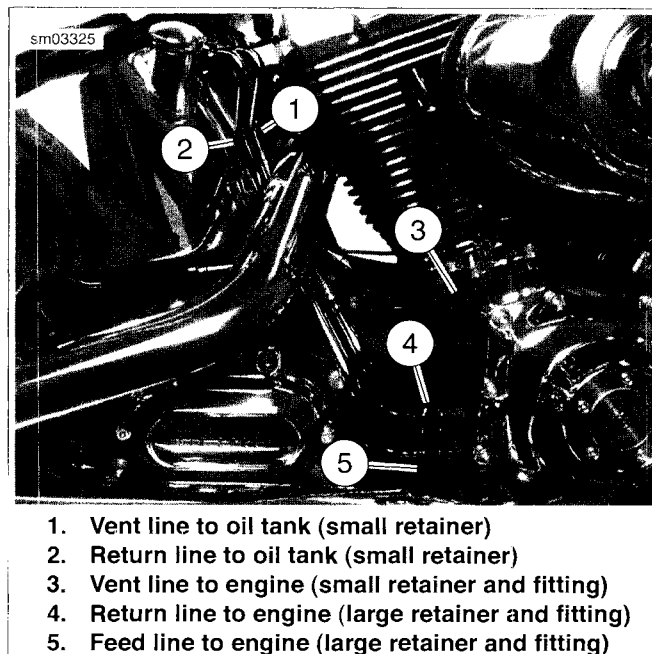

Figure 3-173. Oil Line Fittings/Retainers: All But FXCWC
- See Figure 3-173. Small retainers connect the vent (1) and return lines (2) to the oil tank. A small retainer and fitting also connects the vent line (3) to the engine.
- Large retainers and fittings attach the return (4) and feed lines (5) to the engine.